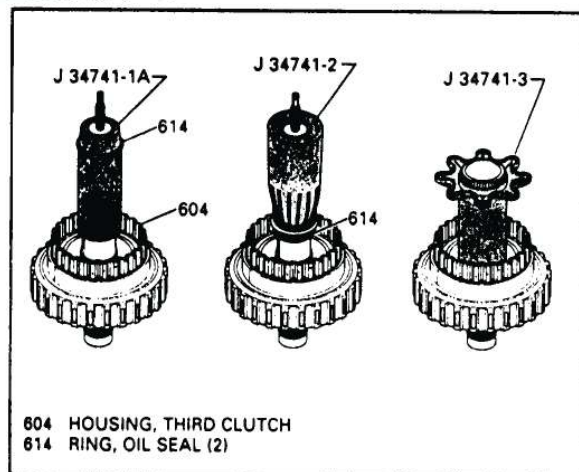

Figure 64
5. Adjust tool J-34741-1A so that the bottom of the seal installer matches the bottom seal groove, as shown in Figure 64.
6. Lubricate the new seal ring with some transaxle fluid and position it on top of J-34741-1A (See Figure 64).
7. Using J-34741-2 quickly slide the seal into the seal ring groove (Fig. 64).
9. Slide J-34741-3 re-sizing tool over the seals with a twisting motion to size the seals (See Figure 64).
10. Leave the re-sizing tool in place until ready to install housing into transaxle. (See Figure 64).